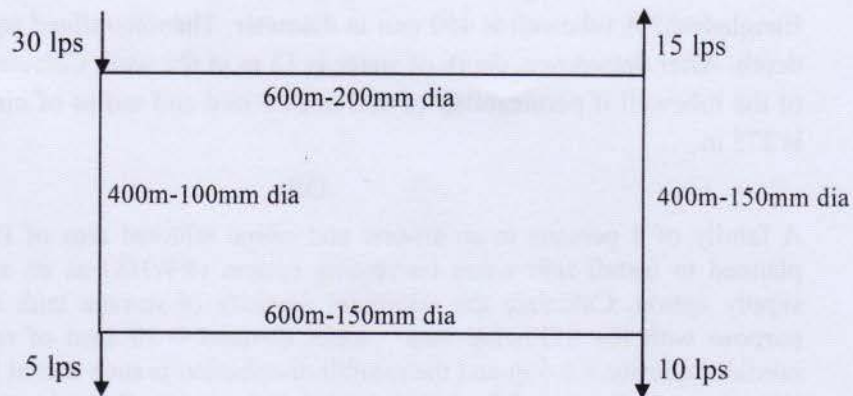

Fig. 1.
- (b) Using a flow diagram, show the locations of water losses in a piped water supply system. Calculate the corrected flows in the various pipes of the distribution network as shown in following Fig. 1 (use Hardy Cross method). The diameters and lengths of the pipes used are given against each pipe. One trial is required. [5+10]